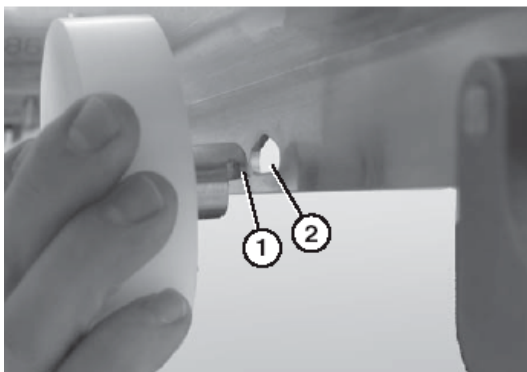

Figure 13
1. Insert the notched end of the return shaft (Figure 13, item 1) through the small hole (Figure 13, item 2) in the inside of the conveyor frame.